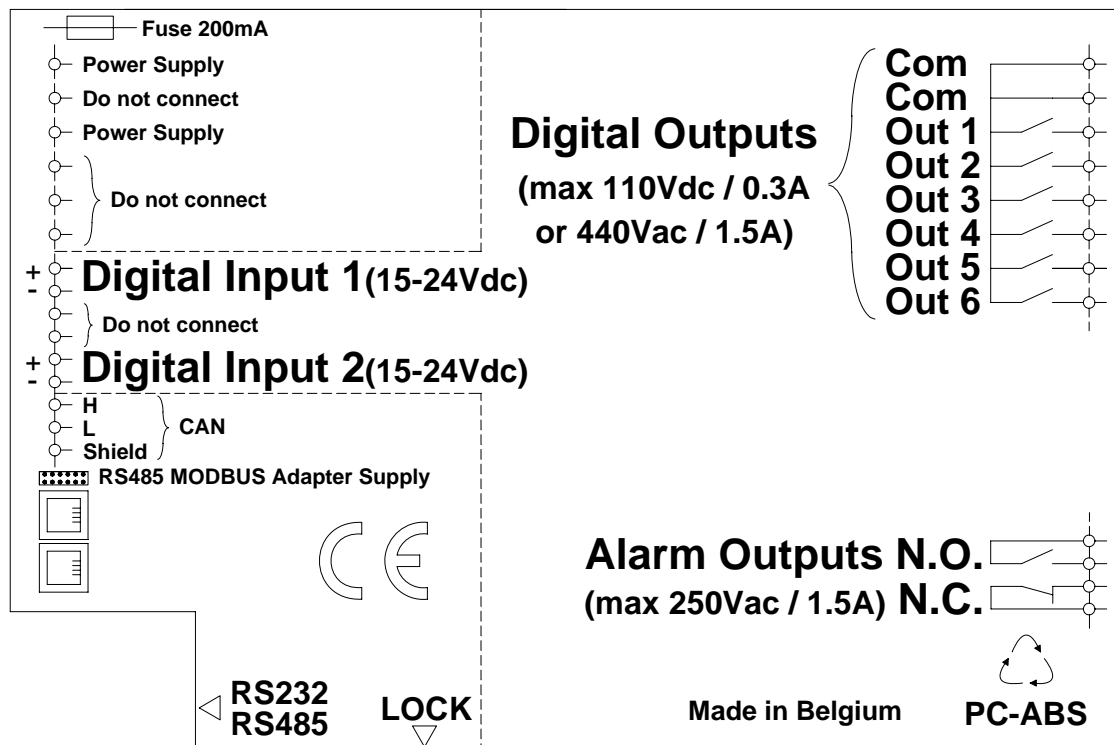
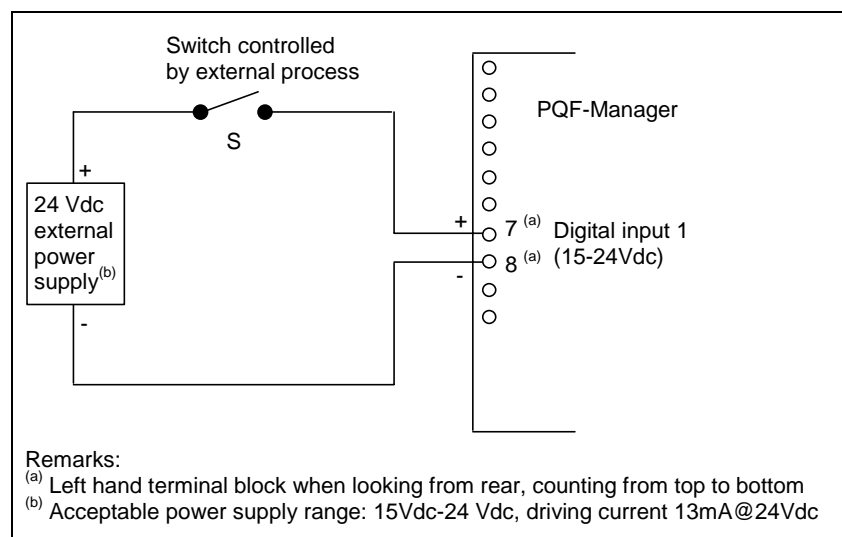

Figure 7.39. Rear side layout of the PQF-Manager user interface
Figure 7.41. Implementation of remote control functionality on Digital Input 1 of the PQF-Manager
The PQF-Manager is the user interface between the outside world and the filter controller. Depending on the user requirements, less or more electrical connections have to be made to it. Figure 7.39. shows the rear side layout of the PQF-Manager.
Any of the two digital inputs on the PQF-Manager (Cf. Figure 7.39.) can be used to cable the remote control functionality. The electrical requirements of the digital inputs are given in Table 14.1. (Filter characteristics section). Figure 7.41. gives an example of how to implement the remote control functionality on Digital Input 1.
Once the cabling has been finished, the power to the filter may be restored. Then, the PQF-Manager has to be used to associate the remote control functionality with Digital Input 1. This is done by going to the digital input setup menu and selecting 'Remote ON' for digital input 1. When this is done the filter will switch on when the switch S shown in Figure 7.41. is closed and the filter will switch off when the switch S is opened. Refer to Section 8.7.1.2. for guidelines on how to navigate to the digital input setup menu.
- A second method to implement the alarm functionality is to use the PQF-Manager's programmable digital output contacts. Use this approach when the condition for alarm is uniquely defined, e.g. an alarm has to be given only when the filter trips due to an unacceptably high network voltage or when the filter trips due to a well defined internal error. This type of alarm has to be cabled on the 8 pin terminal block situated at the top right corner when looking at the PQF-Manager from the rear (Cf. Figure 7.39.)
The different electrical characteristics of the digital output contacts compared to the alarm contact characteristics must be respected. Note also that all digital outputs have the same common which is located at the pins 1 and 2 of the right hand terminal of the PQF-Manager (rear view, counting from top to bottom). This is clearly indicated in Figure 7.39 above.
A warning condition is a condition that can be set up by the user in such a way that if the condition is met, a digital output contact of the PQF-Manager user interface (Cf. Figure 7.39.) is closed. As an example consider a case where the user has set up an upper warning level for the network voltage. If the level measured by the filter becomes higher than the predefined warning level and this conditions remains valid for a preset time, the associated digital output will be closed. By monitoring the digital output, the customer will then know when the network voltage becomes too high and subsequently he can take appropriate action.